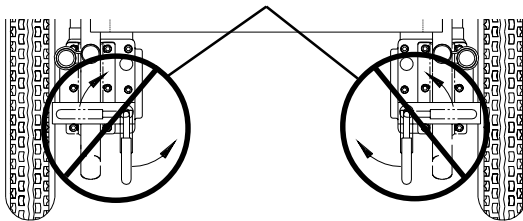

FIGURE 3 - DISENGAGING/ENGAGING MOTORS WITH CLUTCHES
2. Locate the clutch handles on motors (FIGURE 3).
If clutch handles are forced to engage in the wrong direction (FIGURE 3), the motors will be damaged and will need to be replaced.
3. Perform one (1) of the following (FIGURE 3):